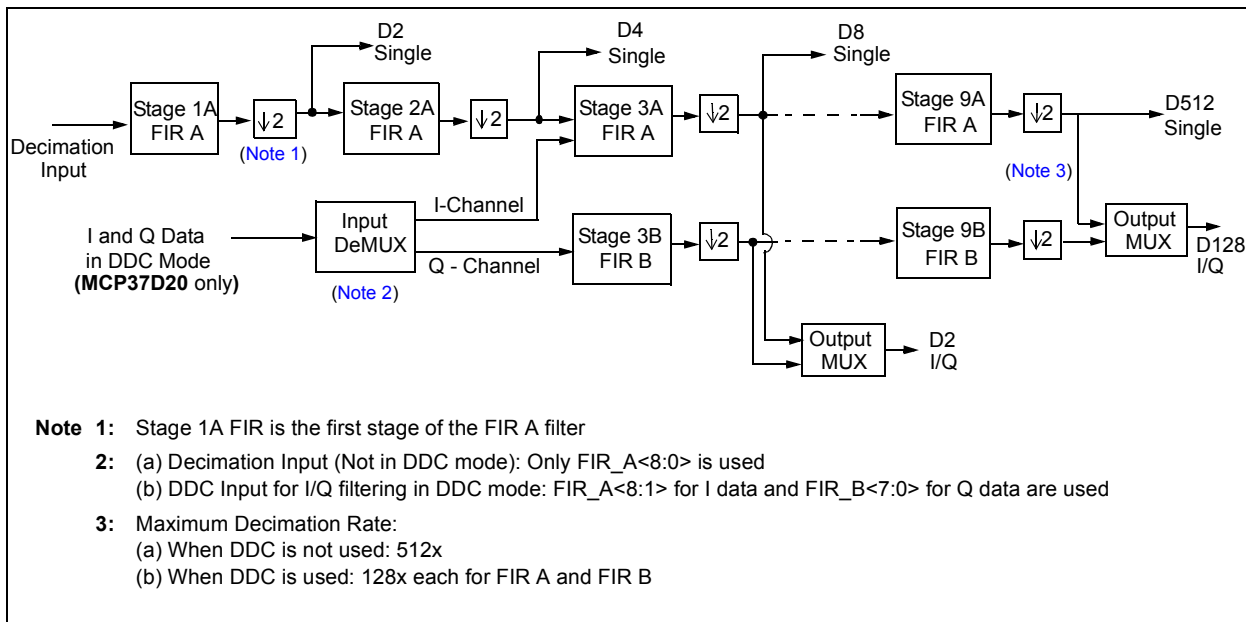

FIGURE 4-12: Simplified Block Diagram of Decimation Filters.
Figure 4-12 shows a simplified decimation filter block diagram and Table 4-10 summarizes the related control parameters for using decimation filters.
- **MCP37D20-200:** (a) When DDC mode is not required, only FIR A is used. (b) When digital down-conversion (DDC) is used for I and Q data filtering, both FIR A and FIR B filters are used (see Figure 4-12). In this case, both are set to the same decimation rate. Note that stage 1A in FIR A is unused: the user must clear `FIR_A<0>` in Address `0x7A` (Register 5-34).